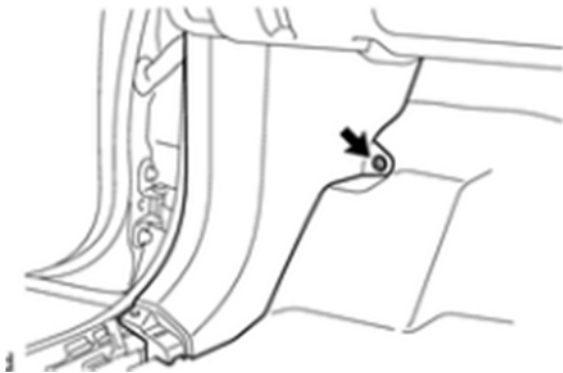

Figure 7a
- 7. Remove the clip. Disengage the 2 clips and guide to remove the cowl side trim board LH. See figure 7a and 7b.